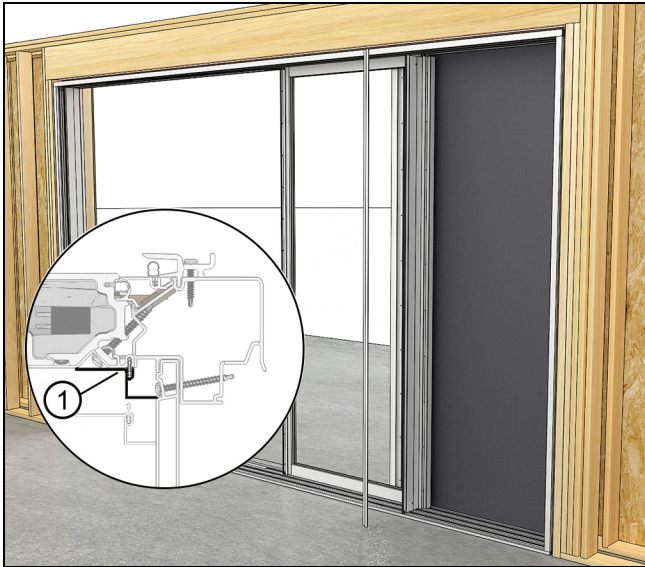

Figure 101
5. Attach the pocket cover trim piece. The trim is barbed into the pocket panel and covers the screws fastening the components to one another. See Figure 101.